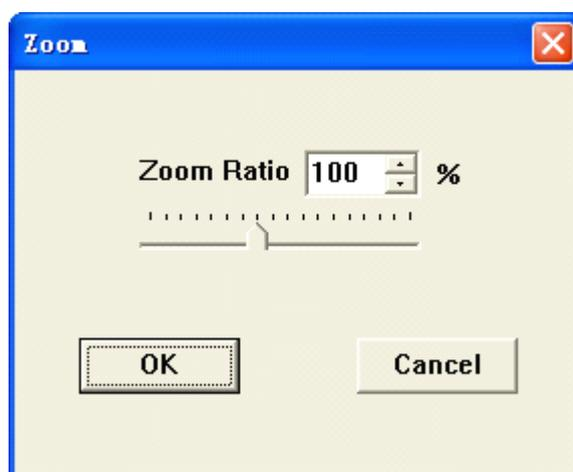

Fig.2.28 Zoom
**【Zoom】** : **Zoom** operation can be used to change the display ratio of LD editing area. Select **Zoom**, then the programming software will pop up the **Zoom** dialog box. Directly fill the input box with the desired ratio, or click the up and down buttons beside input box, or drag the cursor to achieve the ratio, the input box will always display the set ratio. As shown in Fig.2.28: